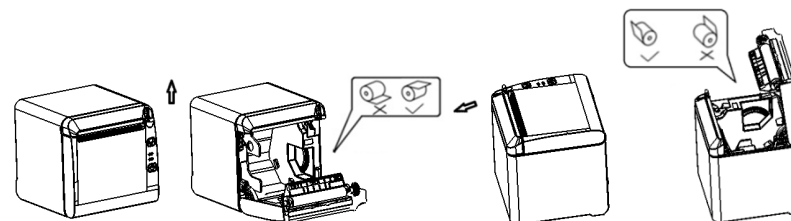

Figure 3.2.
- 2) Push the spanner in the direction shown in figure 3.2.
- 3) Place the paper roll into the printer, as shown in figure 3.2.